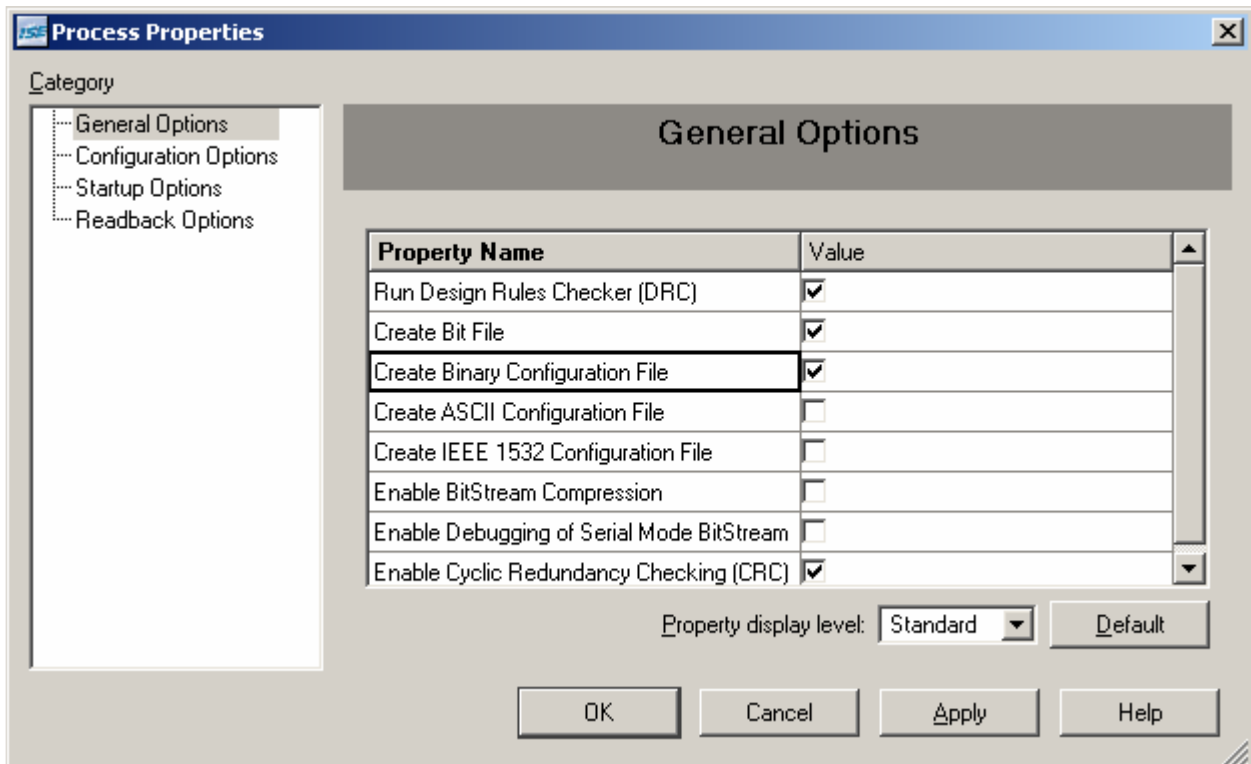

Figure 6-4 Processes window of ISE
3. Check [Create Binary Configuration File] and click [OK] (Figure 6-4).